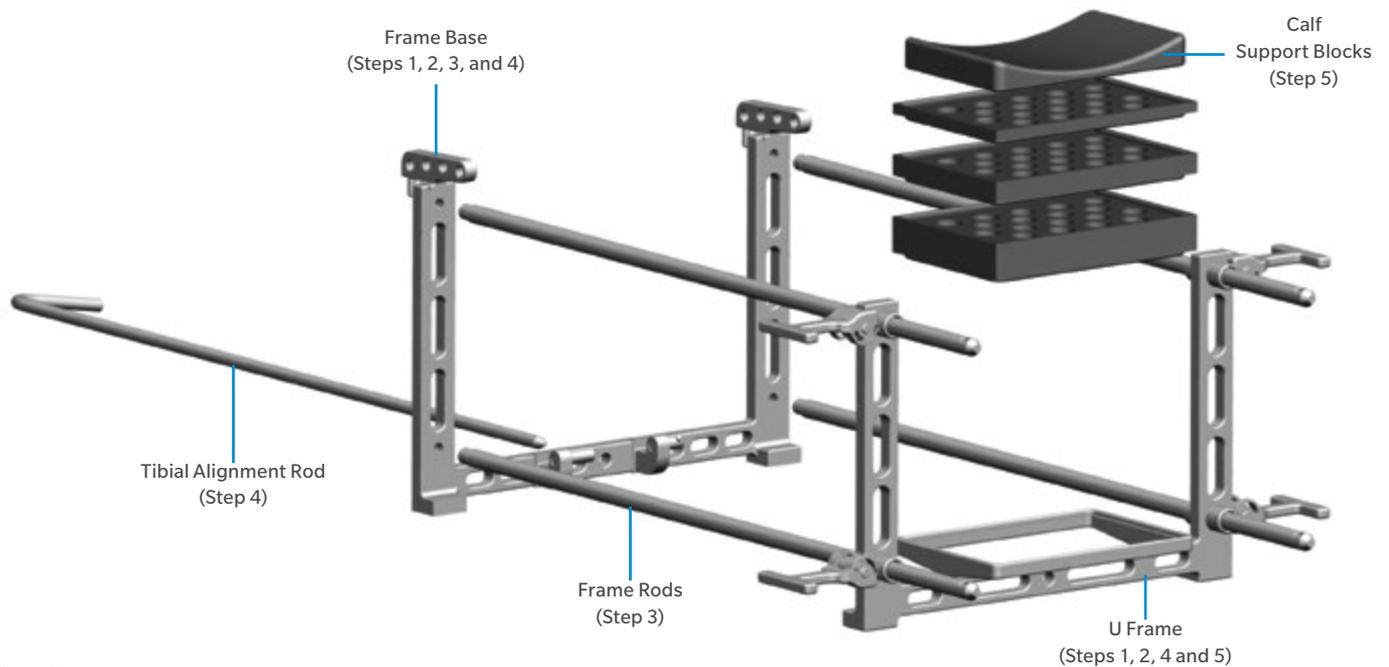

Fig. 109
Set the U Frame and Frame Base upright and parallel on a table (Fig. 109).
Insert the four Frame Rods through the holes on the U Frame (Fig. 109).
Thread the threaded ends of the four Frame Rods into the corresponding holes of the Frame Base until tight (Fig. 109).
Insert the Tibial Alignment Rod through the center hole at the bottom of the Frame Base and extend it across the Alignment Stand Assembly and through the corresponding hole at the bottom of the U Frame (Fig. 109).
- Stack the desired number of interlocking Calf Support Blocks onto the cradle at the bottom of the U Frame to achieve the desired height (Fig. 109).